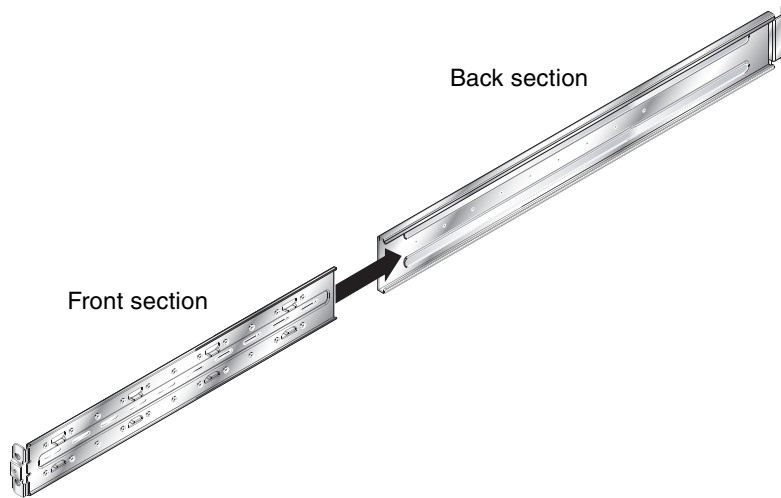

FIGURE 3-2 Sliding the Front Bracket Section Into the Back Bracket Section (19-Inch, Four-Post Rack)
1. If required, slide together the front and back sections of the rack brackets (FIGURE 3-2).